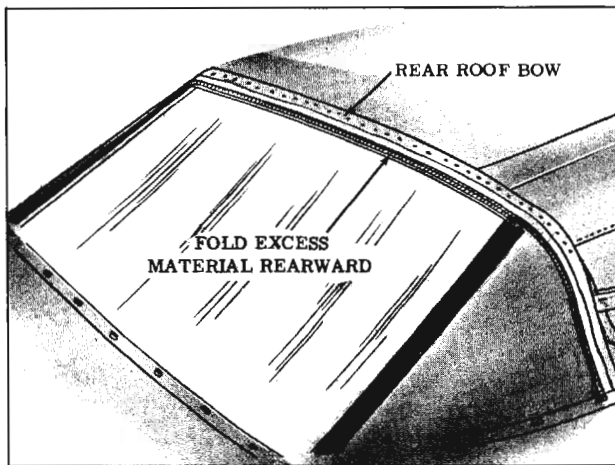

Fig. 16-125 Curtain Installation at Rear Bow
16. Working from body center progressively outboard to right and left sides, tack back curtain upper valance to rear bow. Make sure all fullness has been drawn from curtain assembly. Fold excess back curtain upper valance material rearward and tack to rear bow. (Fig. 16-125)